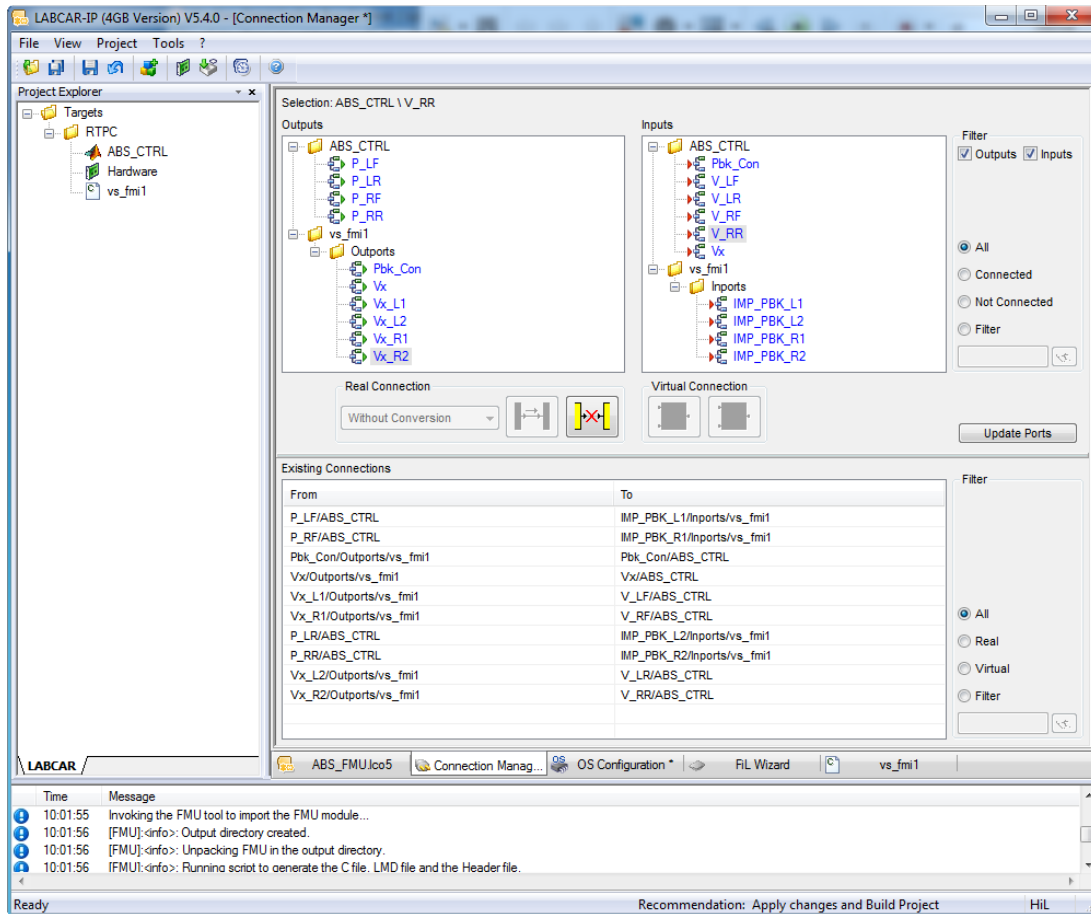

Figure 35. LabCar Project – connecting FMU and Simulink.
13. On the LabCar main project window, click the Connection Manager tab to make the connection between FMU and Simulink (Figure 35). Once you make all connections, select **File -> Save**.
1. Go back to the LabCar Operator (Figure 35). In the OS Configuration tab, check and make sure the Enable OS Monitoring box is checked and set update timer period to 0.01s. If you do not see Enable OS Monitoring, try clicking a blue arrow  on the right side of the window.